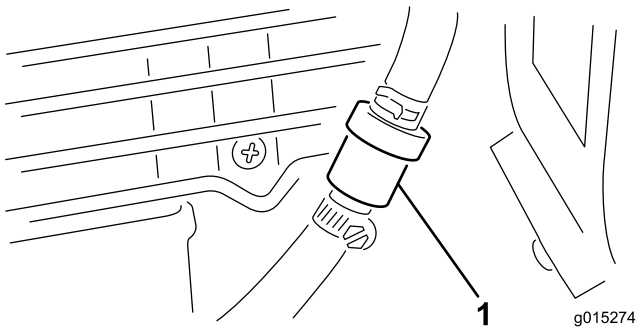

Figure 21
2. Place a clean container under the fuel filter (Figure 21).